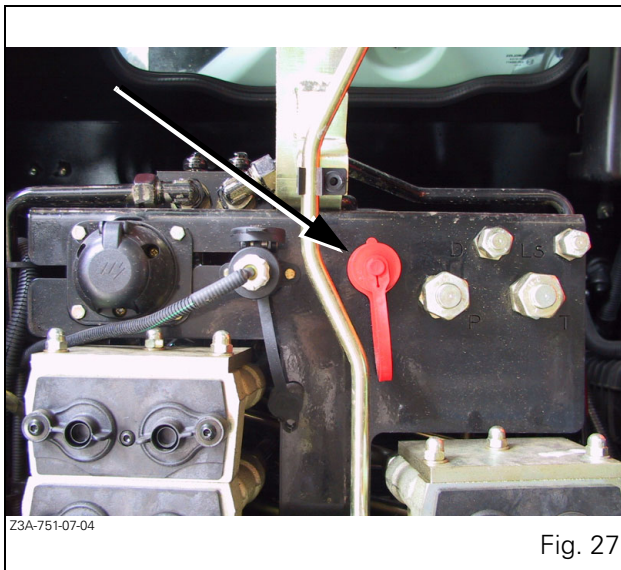

Fig. 27
**WARNING:** Trailer brakes (Fig. 27). To activate the trailer brakes, connect the trailer hose to the union at the back of the tractor and lock the brake pedals together.